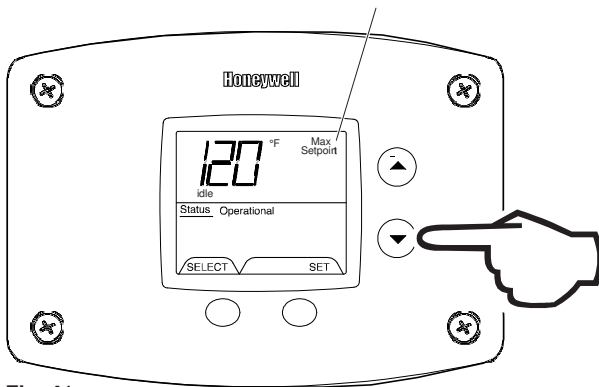

Fig. 41
3. Press the 'UP' or 'DOWN' buttons to change the maximum setpoint value. This will limit the maximum setpoint the user can select. Note: The maximum setpoint is approximately 82C (Fig. 41).